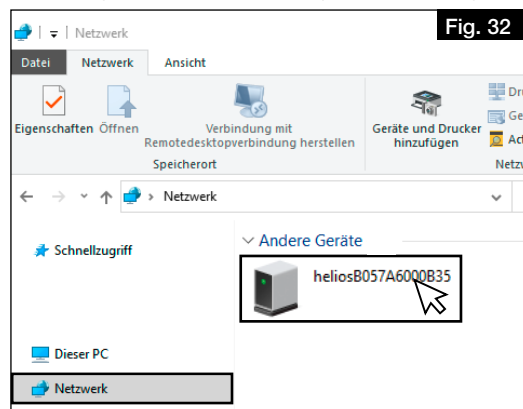

Fig. 32
2. Open desktop and click on Network, cf. Fig. 32.
① **Network discovery must be activated!**
3. Double-click on the corresponding unit, cf. Fig. 32.